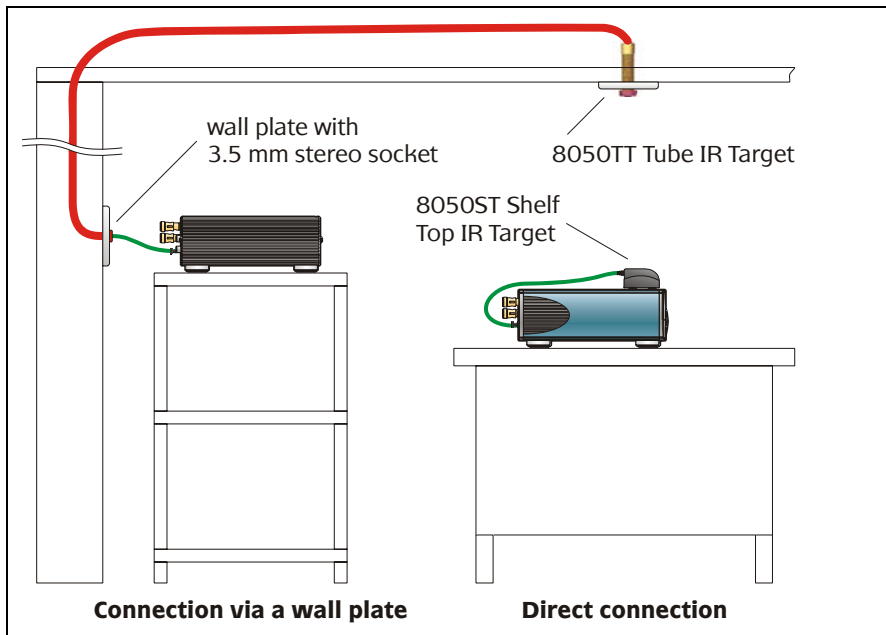

Figure 12 - Connecting an IR target to an Amplifier
An infrared (IR) target can be connected to the green Phoenix socket on the rear of each Amplifier. This allows an IR remote control to operate audio source equipment which is fitted with IR emitters connected to the Matrix Switcher. Figure 12 shows two methods of connecting an IR target to an Amplifier.